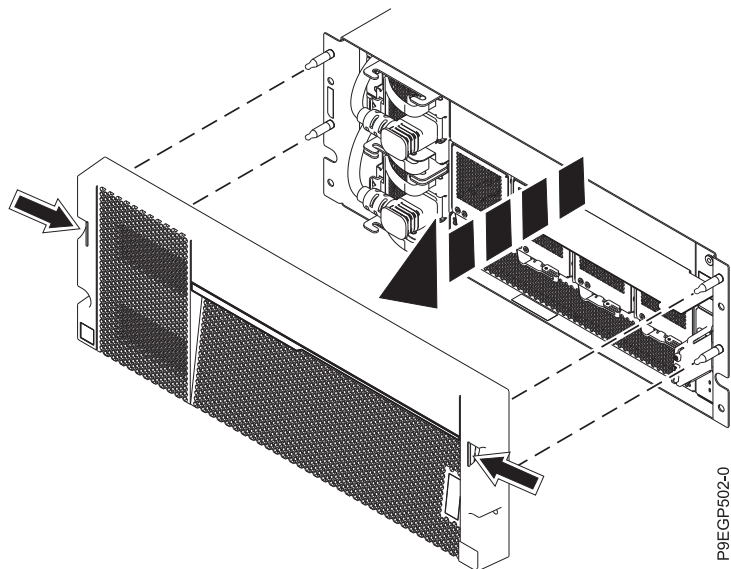

Figure 8. Removing the cover and the service information card
- b. Using the two blue touch points on each side of the drawer, pull the cover straight out to remove the cover from the front of the drawer as shown in Figure 8 on page 11.